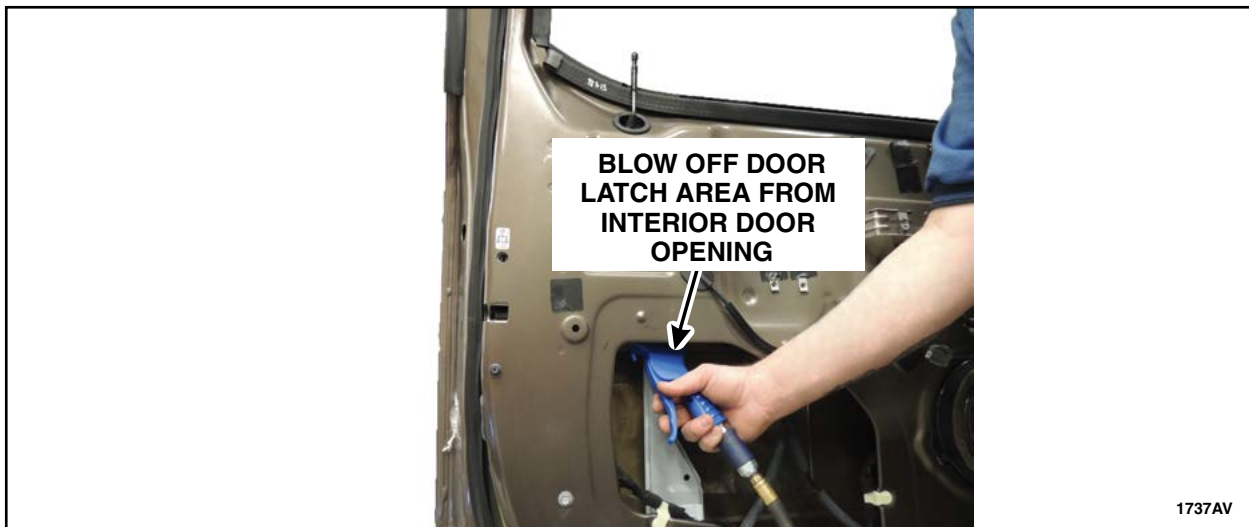

FIGURE 20
5. Using compressed air, blow out any debris or residual water from the door latch assembly, exterior door handle mechanism and cables for thirty seconds. Blow drying with compressed air for thirty seconds is critical to remove as much moisture as possible. See Figure 20.